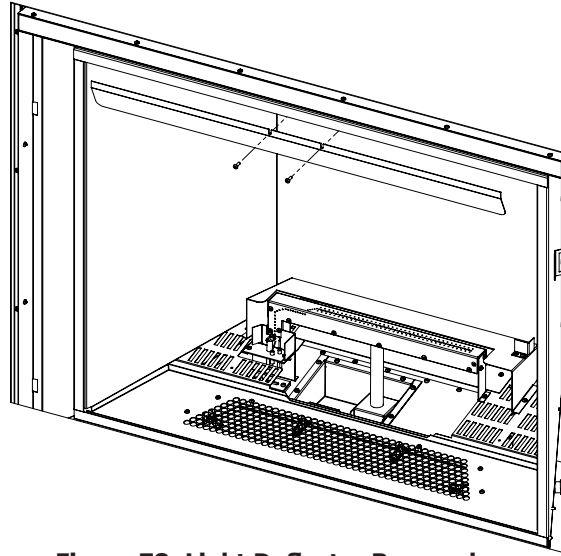

Figure 78: Light Deflector Removal
Step 2. Remove light deflector by removing two retaining T-20 screws (see Figure 78).